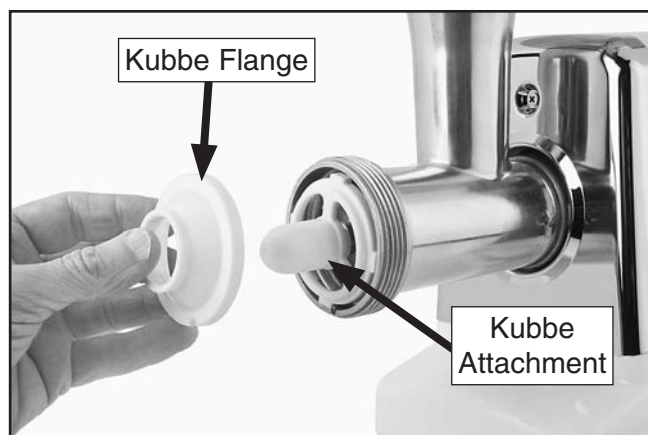

Figure 15. Installing kubbe attachment.
3. Insert the kubbe attachment onto the auger, then place the kubbe flange over the attachment, as shown in **Figure 15**.